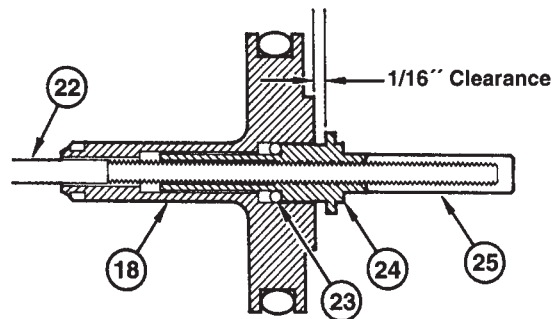

Fig. 1
A 1/16" gap between the Air Piston Ass'y (18) and Needle Body (24) should be maintained (see Fig. 1). This will create needle motion that will allow adequate air flow before the fluid starts flowing. The gap may be adjusted by partially removing the Material Needle
(22), screwing the Needle (22) either in or out of the Needle Body (24) and locking it back into the gun while being sure to check the clearance between the Air Valve Piston (18) and the Needle Body (24).